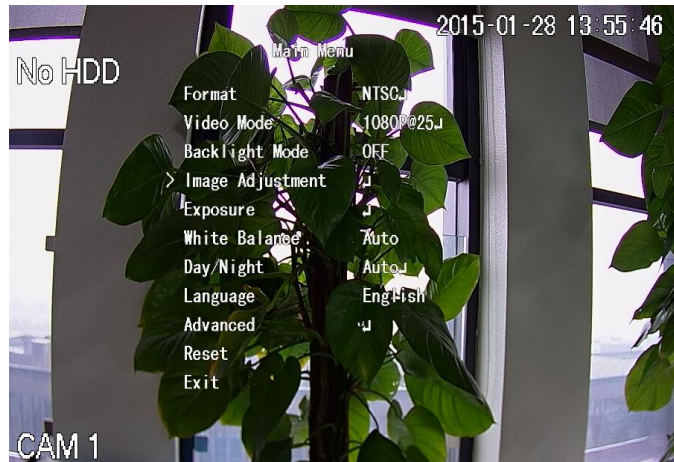

Figure 2-32
Step 2 Click the Enter button, you can see the OSD menu of the HDCVI camera. See Figure 2-32.